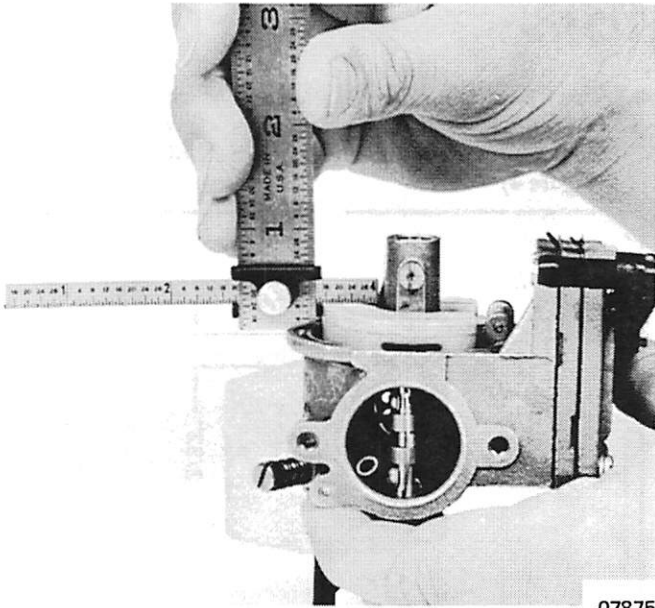

Figure 5. Float Level Adjustment
1. Adjust float level to  $1/4 \pm 1/64$ " from float bottom to casting. (Figure 5)